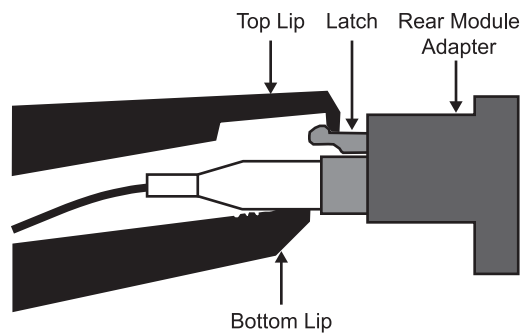

Figure 2.5 Re-positioning the Optic Cable Tool — Single-Latch Connector
6. Re-position the Optic Cable Tool so that top lip sits behind the latch. (**Figure 2.5**)